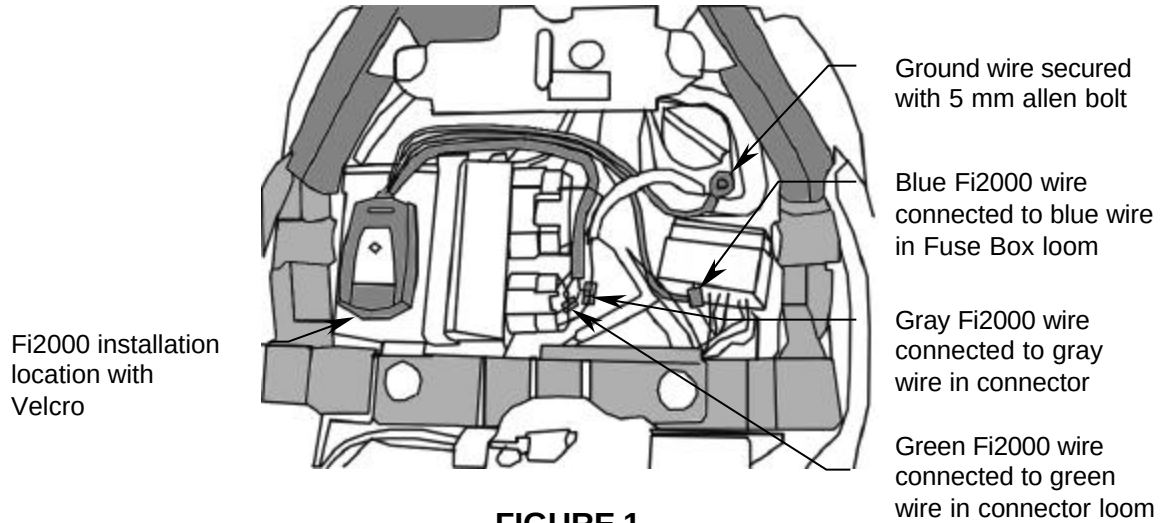

FIGURE 1
1. Remove the seat from the motorcycle. Locate the light green and gray wires coming from the rear most ECU connector plug. Attach a T-tap connector to each of these wires; see Figure 1.
2. Locate the fuse box to the right side of the ECU. Depress the catch on the fuse box and pull the box up until it clears the bracket. Turn it over and find the blue wire. Attach a T-tap connector to this wire; see Figure 1.
5. Using the supplied Velcro pads, place the module in the position shown, in Figure 1. Before reinstalling the seat, verify connections.